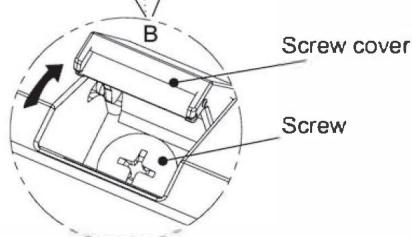

Fig. 414
- 3) In the B position, open the screw covers as shown in Fig. 414 and remove the screws. (Note: For some models, you need to remove 3 screws.)